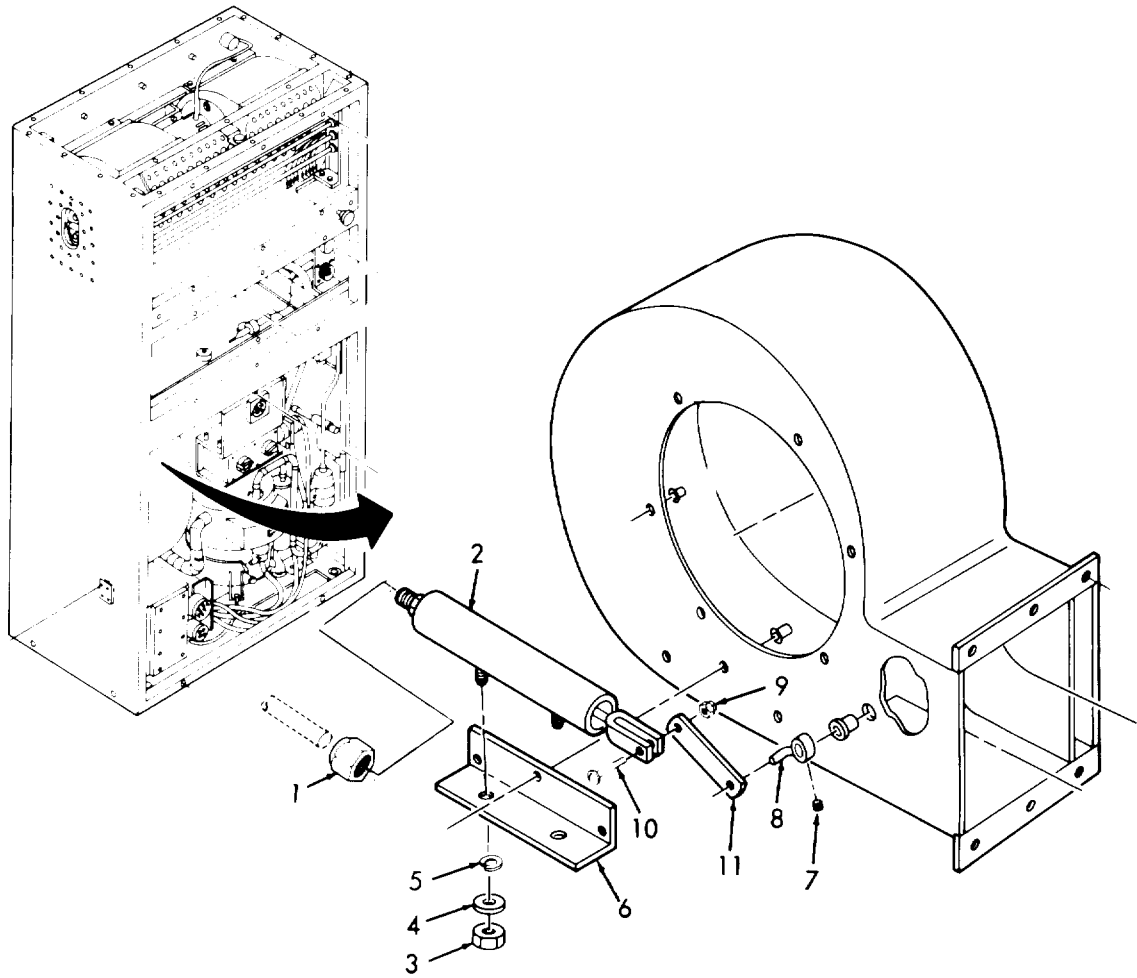

Figure 5-5. Damper Actuator.
- (1) Install lever (11), screw (10), and lock nut (9) onto actuator (2).
- (2) Install actuator arm (8) on damper shaft and actuator (2). Refer to Figure 5-5 and position actuator arm (8) as indicated.
- (3) Tighten set screw (7) on arm (8).
- (4) Secure damper actuator (2) to bracket (6) with two flat washers (4), two lock washers (5), and two nuts (3) but do not tighten.
- (5) Secure flare nut (1) to damper actuator (2).
- (6) Move damper actuator (2) until damper is in fully closed position and then tighten actuator mounting hardware.
- (7) Leak test area around flare nut (1) (See para. 5-10).
- (8) Replace filter/dryer dehydrator (See para. 5-15).
- (9) Evacuate the refrigeration system (See para. 5-11).
- (10) Charge the refrigeration system (See para. 5-12).
- (11) Replace front panel (See para. 4-20).